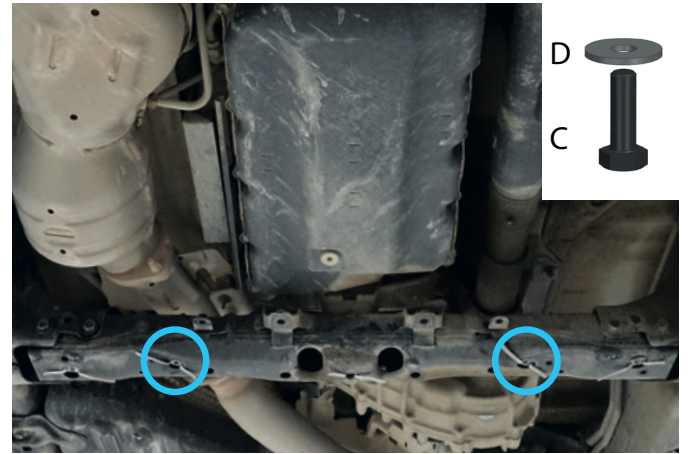

Fig. 6
6. Insert bolts M8x25 (item C) with washers 8 (item D) for 2-3 turns as shown in fig.6.